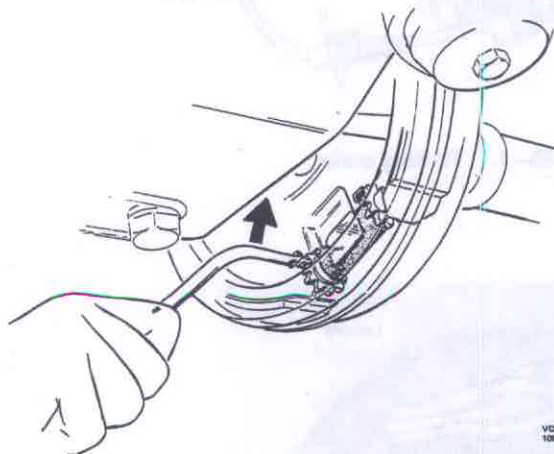

Fig. 55–3. Adjusting the parking brake
2. Adjust out one of the brake shoes with a suitable adjuster tool (curved screwdriver), see Fig. 55–3, until the brake drum can be just about rotated. Then slacken the adjuster screw until the drum rotates freely, but maximum 5 teeth.